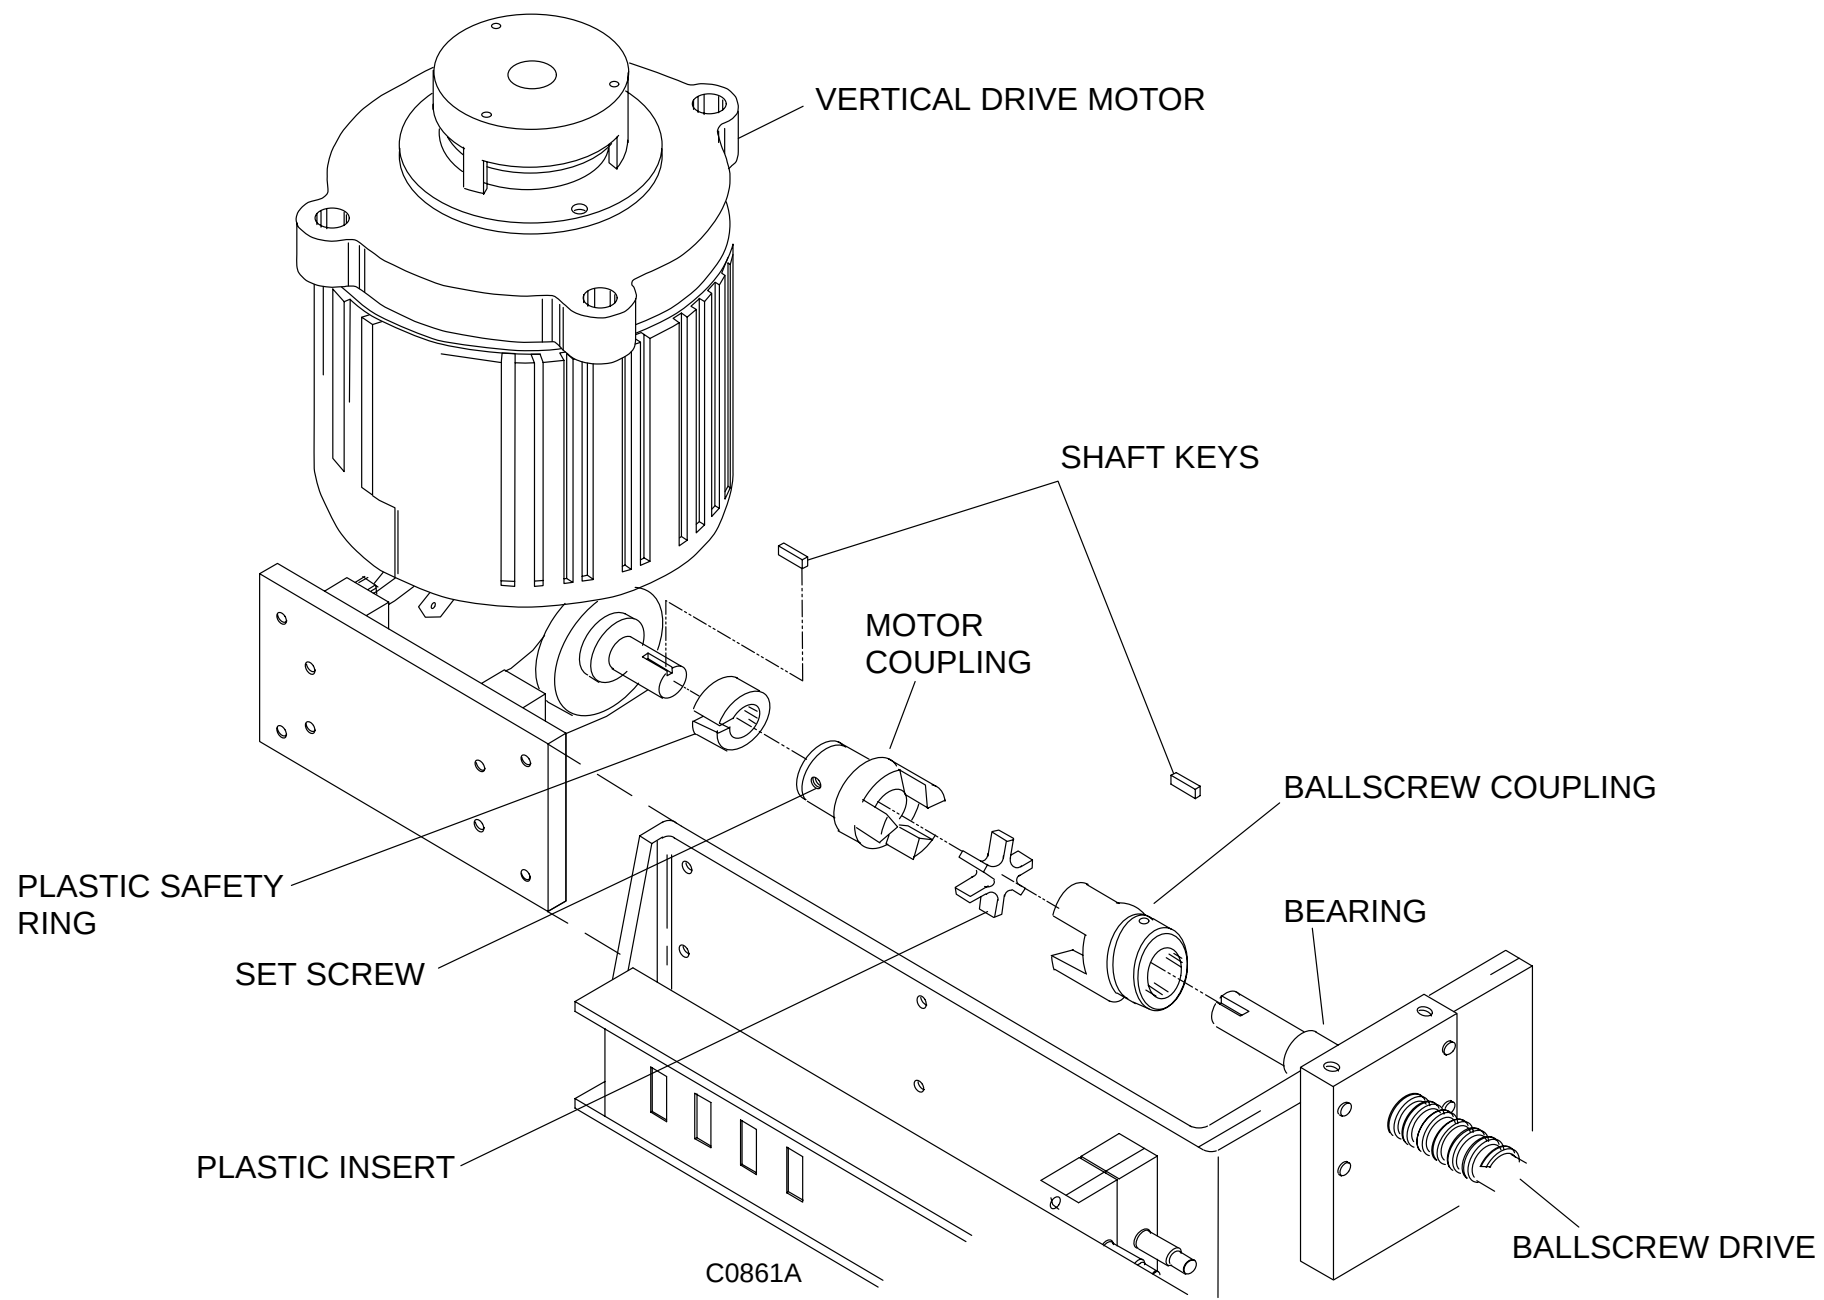

FIGURE 213 COUPLING EXPLODED VIEW
17. Loosen the set screw on the motor coupling and remove the coupling from the shaft. See Figure 213.
22. Slide the plastic safety ring, shaft key and motor coupling onto the motor shaft. Do not tighten the motor coupling set screw at this time. Refer to Figure 213.